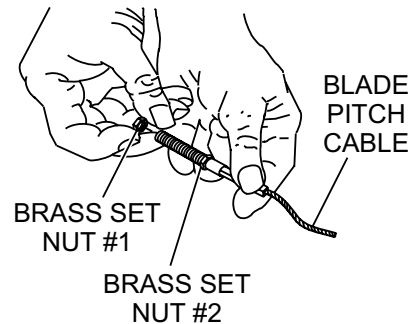

Figure 11. Blade Pitch Cable
- Remove brass set nut #1 from the blade pitch cable end as shown in (Figure 11).
- Thread brass set nut #2 (Figure 11) towards the cable as far as possible.